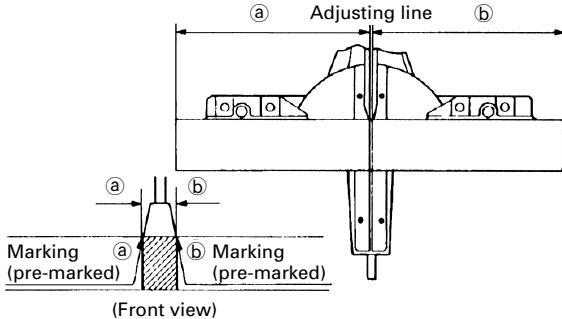

Fig. 26
(1) As shown in Fig. 26 the width of the saw blade is the width of the cut. Therefore, slide the workpiece to the right (viewed from the operator's position) when length (b) is desired, or to the left when length (a) is desired.